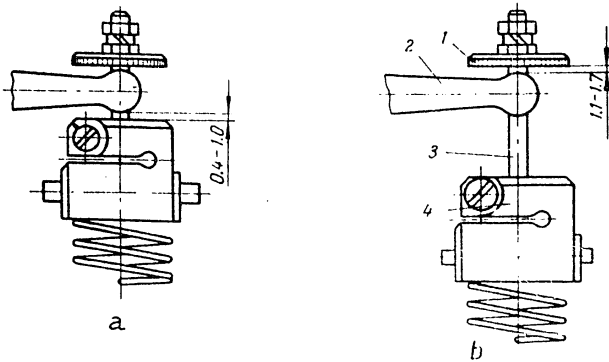

FIG. 88. ADJUSTMENT OF LEVER-TYPE LOAD LIMITER MECHANISM OF GOVERNOR P13M-4
- (c) shift the speed control handle to division "2" of the speed scale. Use adjusting screw 1 (Fig. 54c) to adjust the clearance between forked lever 47 and coupling 26 of the speed change sensor, this clearance must be within 0.4 - 1.0 mm and should correspond to the values specified in the certificate (see also Fig. 88).
Set the manual load limiter to the maximum value. Then adjust the position of the thrust plate until a clearance equal to the value specified in the certificate is obtained between the plate and forked lever 47. The clearance should be within 1.1 - 1.7 mm (see also Fig. 88).